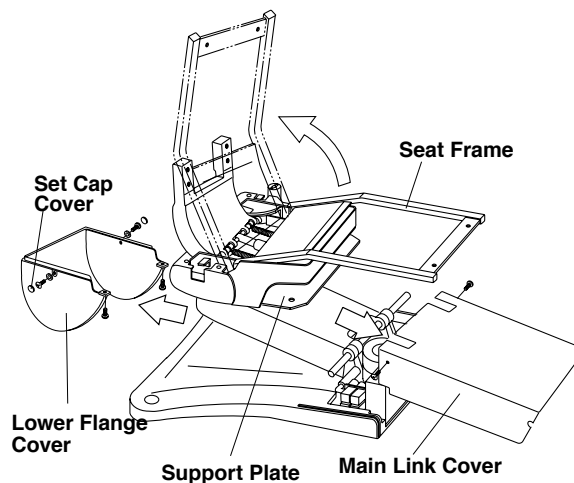

Fig.4-4 Chair Preparations for Installations
- (7) After removing the carriage bolt, plug the power supply cable into suitable power supply outlet. Lift up the upper structure by the foot switch to the highest position. Raise the backrest support by the foot switch to the upright position. (Fig.4-4)
- (8) Remove 2x M5 screw from either side of the main link cover and remove the main link cover. (Fig.4-4)
- (9) Remove the set cap covers from either side of the lower flange cover. Remove 4 x M5 screws and remove the lower flange cover. (Fig.4-4)
- (10) Lift up the seat frame to the back support side. (Fig.4-4)